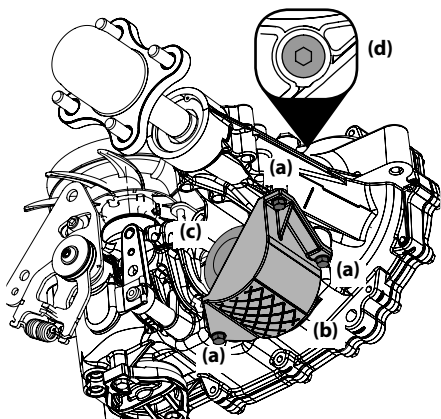

Figure 4-5
2. Remove the three filter guard screws (a) and the filter guard (b). Clean any loose debris from around the filter (c). See Figure 4-5.
7. Remove the top port plug (d) from the transaxles to allow the transaxles to vent during filling. See Figure 4-5.
1. Disengage the brake and open the bypass valve and start the tractor. See Figure 4-5.